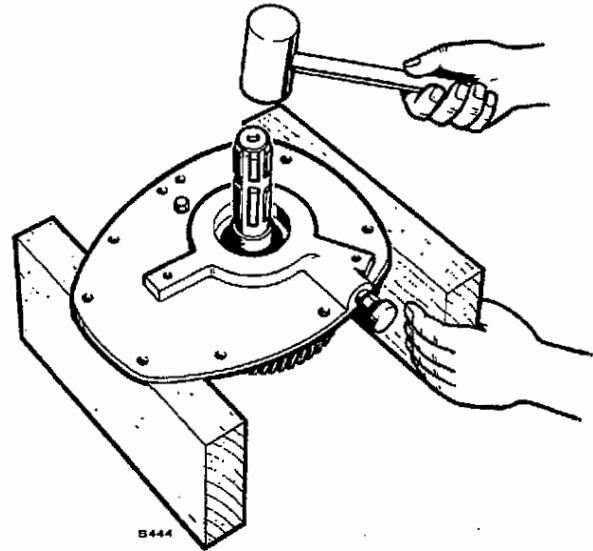

FIGURE 51. REMOVAL OF PTO SHAFT FROM GEAR CASE PLATE
5. Block up gear case plate as shown in Figure 51 and tap PTO shaft out of plate.